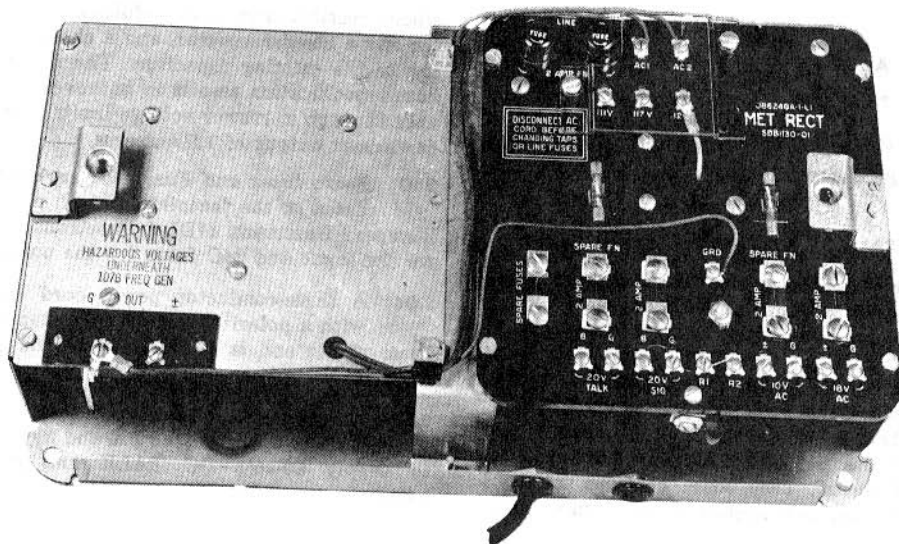

Fig. 1 — J86731A, List 4, Cover Removed
2.01 The 101G power plants provide packaged small capacity ringing, low voltage ac and unregulated dc power supplies. Fig. 1, 2, 3, and 4 show views of some of the plants, while all of the various power plant codes, output and features are shown in Table A.
4.02 When the 107B frequency generator of the J86731A, List 4 power plant is equipped with a metal faceplate (Fig. 1), a *three-conductor power cord must be used and connected to a grounded power outlet, or a case ground must be provided.* When required to install the cord locally, connect the ground conductor (green) under the cord clip mounting screw inside the power plant.